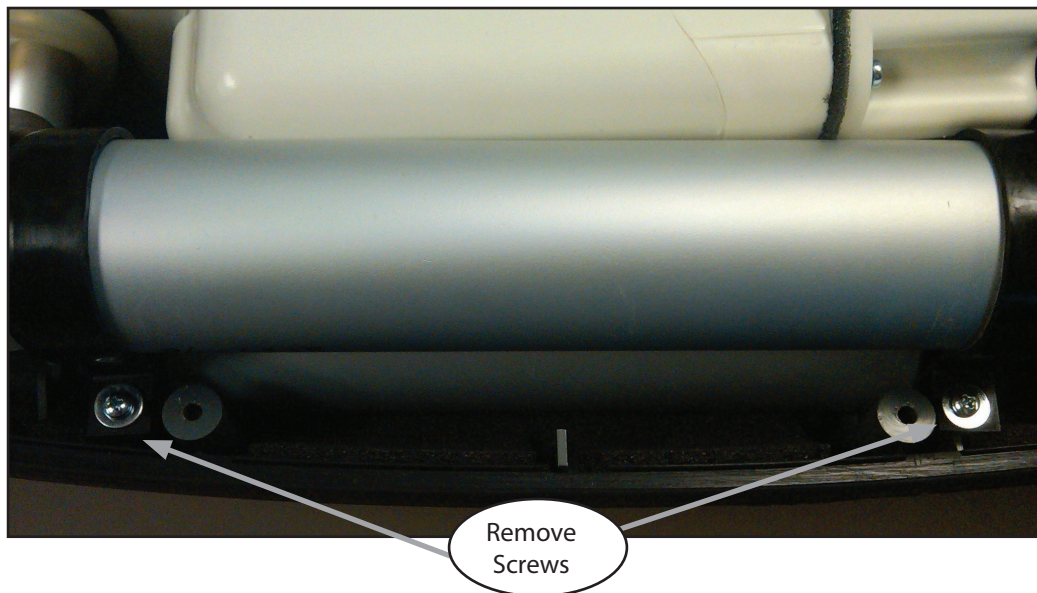

Figure 44: Remove Screws
- 4) Locate the 2 screws that hold the securing straps and the product tank in place, remove the screws. Set aside for re-installation. Figure 44.